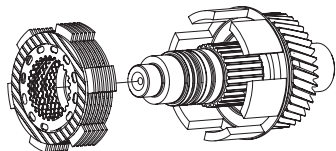

Figure 5 - Output Shaft Component's Removal
9. Tap the piston cup (3) on a wood surface to remove the piston (5).
10. Remove the friction discs (6), wave springs (7) and spacer discs (8) by pointing the shaft end downward. See Figure 5.